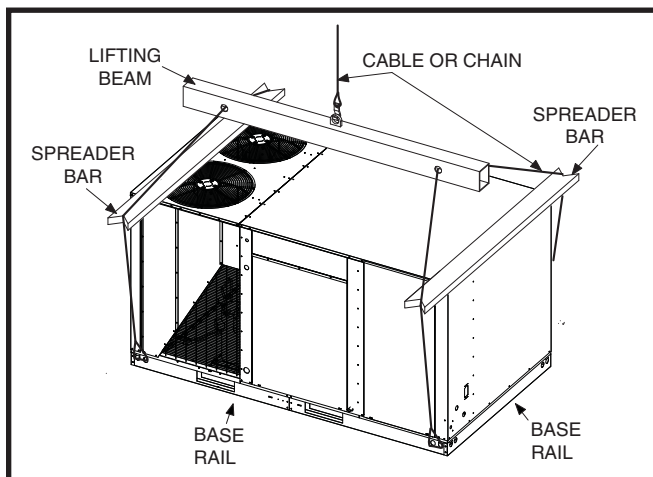

Figure 5. Rigging and Hoisting
- The unit must be lifted from the holes in the base rails using cables or chains as shown in Figure 5 (page 4).
- Spreader bars (Figure 5) are required to protect the unit and ensure even loading.